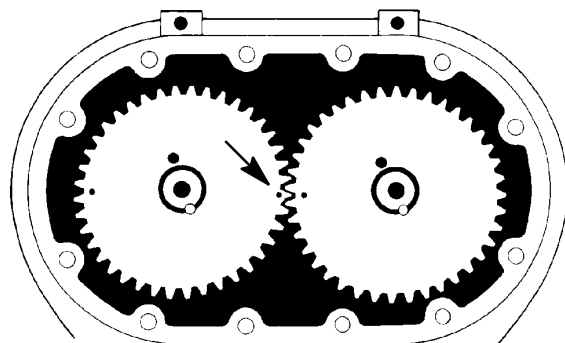

FIGURE 13
5. If timing gears appear to be reusable, matchmark timing gear toothmesh by making small punch marks on the ends of meshing gear teeth with a pin punch and hammer (see FIGURE 13, page 13). The impeller tip to valley (throat) and the case to headplates should also be match marked to facilitate blower reassembly.